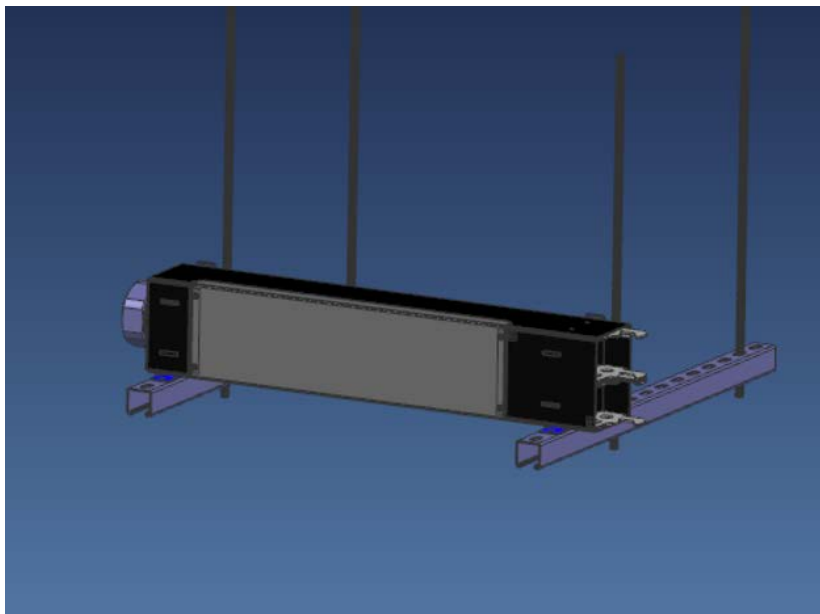

Figure 6 – Locate PFM on base brackets
3. Position PFM on top of base brackets (Figure 6).